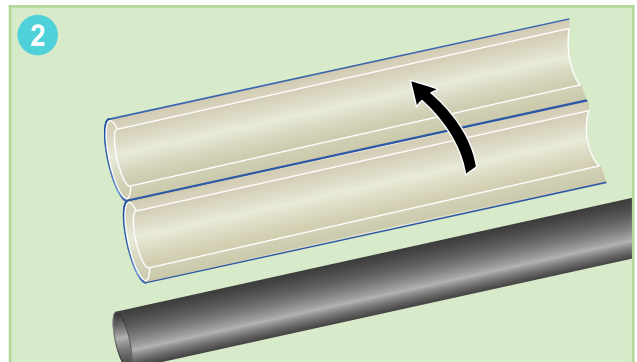

Figure 2: Installing the PST around the Pipe.
Using a handsaw, cut the PUR-SplitTube at markings. Make sure to cut slowly the black mastic tape as not to tear it away. (figure 2)
- Once the PST is open position the pipe inside the insulation tube (**figure 2**).